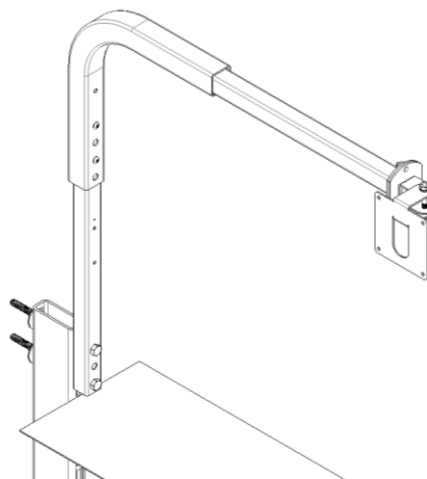

Fig. 6. Complete Gondola Mounting
- Complete Gondola Mounting. See Fig. 6.